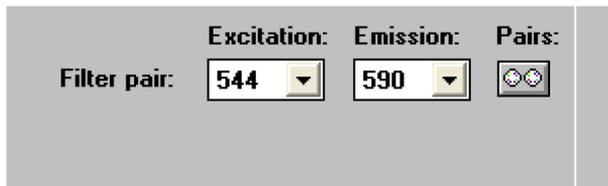

Figure 23. Select the right wavelength pair
7. Select the wavelength pair 544/590 (Figure 23).